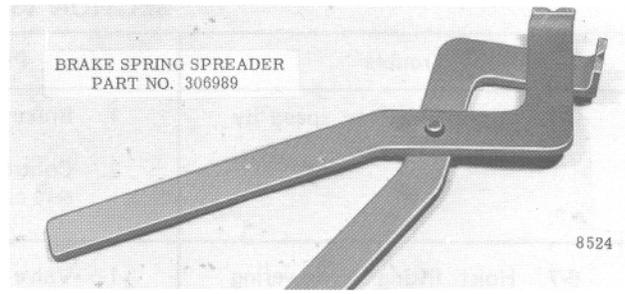
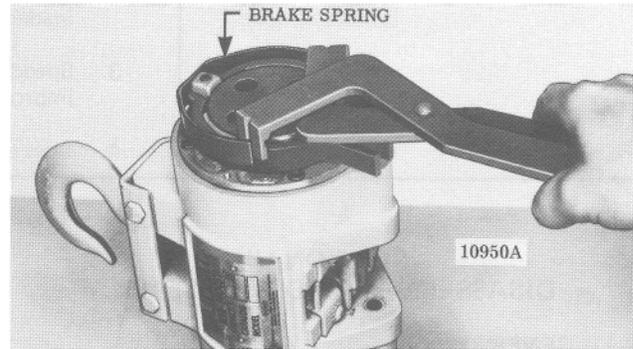
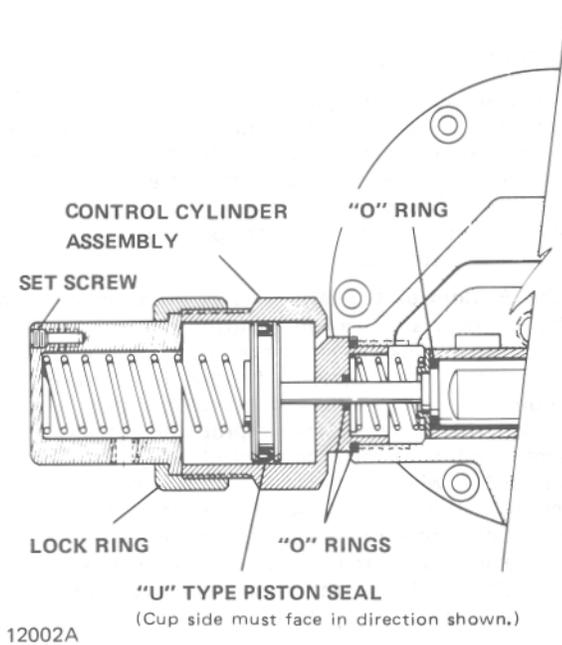
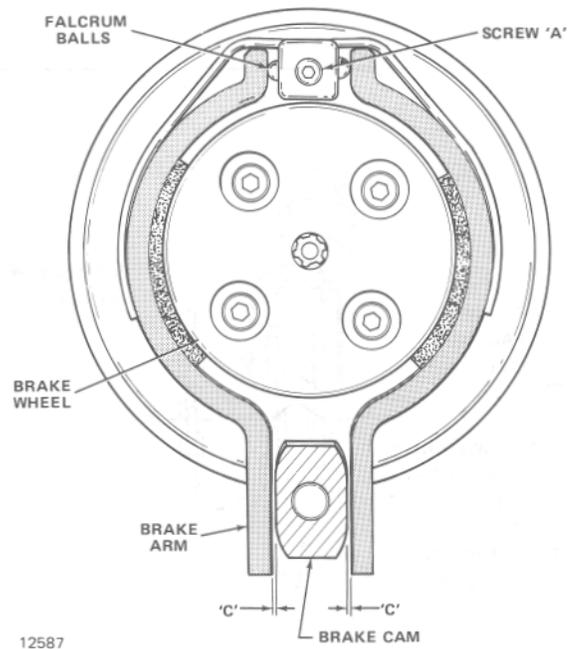

Figure 7-4. Special Tool for Removing Brake Spring.
Figure 7-5. Removing Brake Spring Using Special Tool.
Figure 7-14. Section View Showing Assembly of Control Cylinder on Control Head (Pendant Throttle Control Models).
Figure 7-15. Brake Adjustments.
(4) Remove brake spring by carefully prying it up evenly with a screwdriver until spring is about half-way off. Using brake spring spreader (Part No. 306989, Figure 7-4), remove spring from brake arms (Figure 7-5).
(2) Lift muffler and screen from recess in control head housing.
(3) On pendant throttle control models, remove control cylinder assemblies from each side of control head housing (Figure 7-14). On pull cord control models,
(2) Use new "O" ring seals at each end of valve. Install spring guides and valve springs in bores on each side of housing and secure with spring retainer (pull cord models) or control cylinders (pendant throttle control models). Use new "O" ring gaskets.
(3) At reassembly of control cylinders (pendant throttle control models), use new "U" type seals on piston heads and "O" ring seals on piston stems. Be sure "U" type seals face direction illustrated in Figure 7-14.
(4) Use new "O" ring gaskets on adjusting screws. When installing screws in control head housing, turn them in until heads are flush or slightly below face of housing. Adjustment is accomplished during testing of hoist, paragraph 2-4.
(5) At reassembly of screen and air inlet swivel, install a new "O" ring seal inside swivel bushing.
(6) In mounting control head housing on hoist, use a new motor-to-head air seal gasket and a new head-to-frame gasket.
d. **Assembly of Brake.** If the brake linings show excessive wear, replace brake shoes. In reassembling the brake, the brake wheel assembly goes into position first and is fastened in place by the four screws referred to in paragraph 7-2.f.0). (See Figures 7-8 and 7-9.) Now place the steel fulcrum balls in their receiving cup, using a small amount of thick grease to hold them in place. The balls should retract completely into the receiving cups. Now place the shoes up to the fulcrum balls and brake wheel. Replace the brake spring, using the spreader tool to start the spring over the shoes. (See Figures 7-4 and 7-5.) Tap the spring into place. Adjust brake shoes per instructions in Figure 7-15.